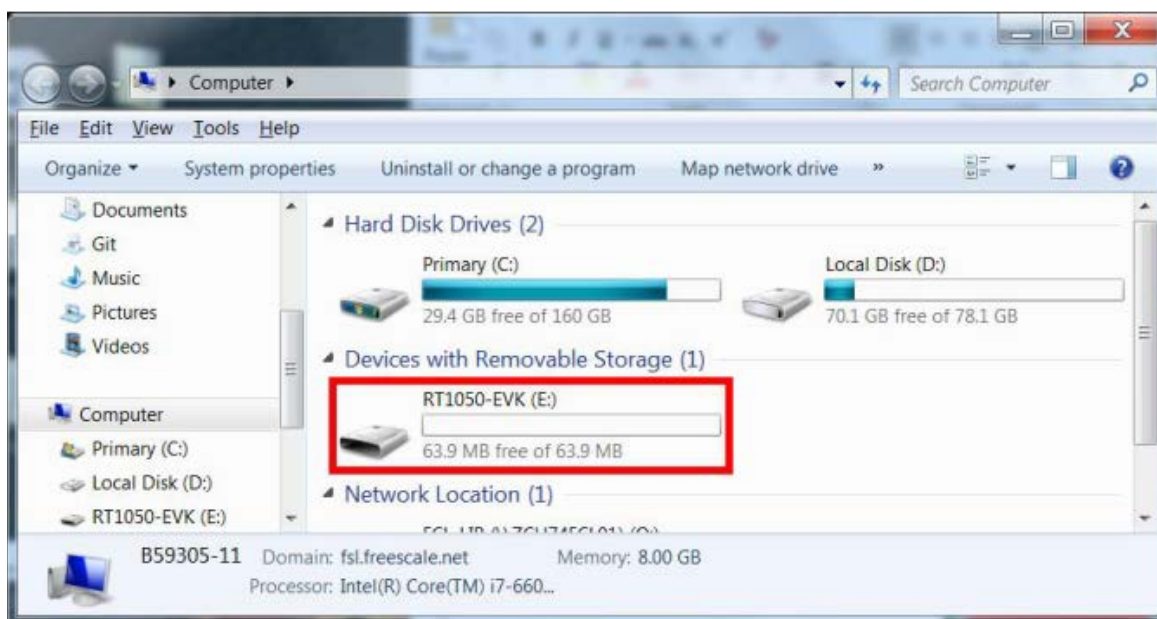

Figure 21. RT1050-EVK appears
4. Drag and drop or copy and paste the selected binary file to the MSD removable drive with the volume labeled “RT1050-EVK” (Figure 21). After several seconds, the “RT1050-EVK” drive disappears.
5. Power down the board. Configure the board to the Hyper Flash boot mode – SW7-2 and SW7-3 pull up, the others pull down (Figure 21).